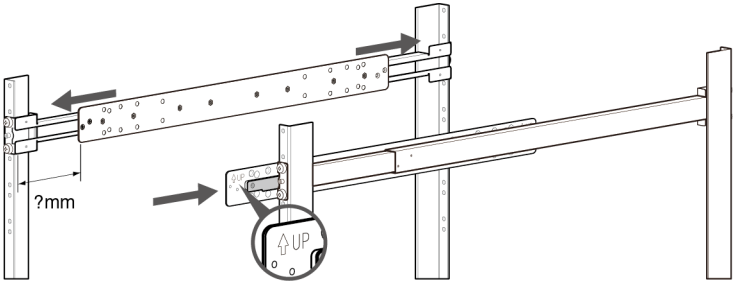

Figure 9. Determine Adjustment Bracket Length
- Determine the length of the adjustment bracket according to where you want to position the switch relative to the front of the rack: Measure the approximate length from the front of the rack to where the inner rail is to be mounted, as shown in Figure 9, then select one of the combinations from Table 2 on page 16 that most closely matches the appropriate length.
The inner rail position is stamped with “UP” and an upward pointing arrow on the inner rail panel, as shown in Figure 9. When the inner rail is installed, make sure it is pointing up.